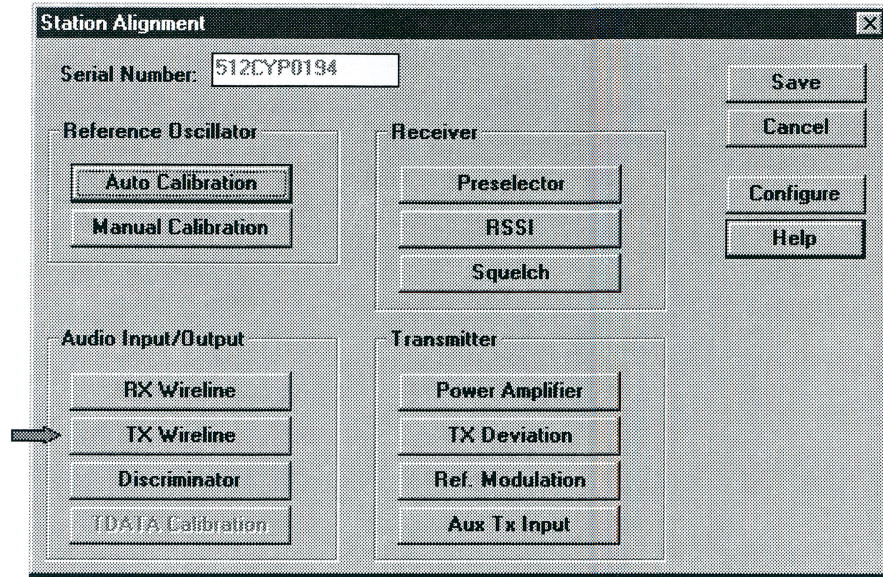
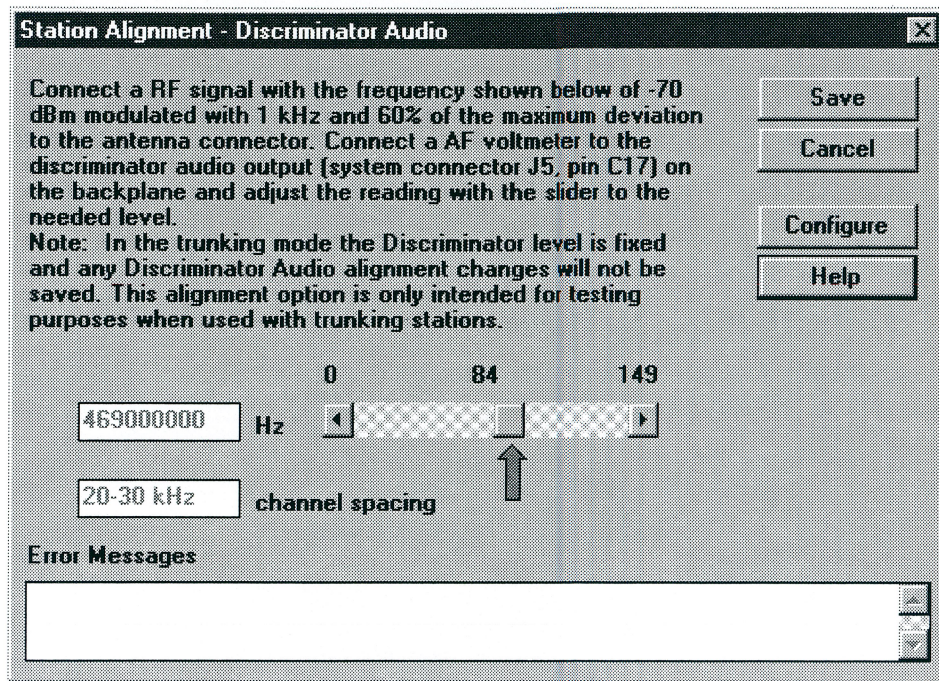

Fig. 9
Fig. 11
3. Click on **Service** in the pull down menu and select **Station Alignment**. Now select the **TX Wireline** button from **Audio Input/Output**. See Fig. 9.
7. Generate a 1kHz tone deviating at 2kHz (1kHz for narrowband operation) and click on the **Discriminator** button in **Audio Input/Output**. See Fig. 9.
8. Adjust the slider, (see Fig. 11), to obtain a 2Vp-p signal on pin 1 of U1 measured with an Oscilloscope. Click **Save** to return to the **Station Alignment** window of Fig. 9.
10. Click on the **Aux TX Input** button under **Transmitter**, (see Fig. 9), and adjust the slider, as in Fig. 12, to obtain 1kHz deviation (800Hz for narrow band operation) of low speed data as measured by the service monitor. Click **Save** to temporarily save the calibration data.